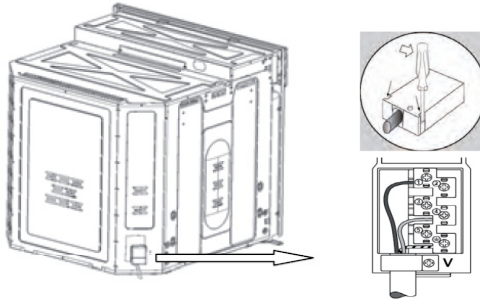

Figure 2.
1. Open the terminal board by placing a screwdriver under the side flaps on the cover, pull and then open the cover (see **figure 2**).